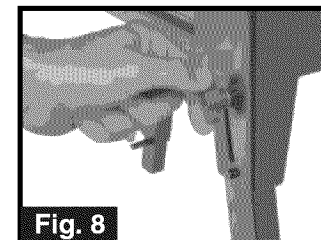

Fig. 8
6. Slide peg on leg into notch on table base (Fig. 8). Lock legs into place by tightening butterfly knobs; repeat on other side.